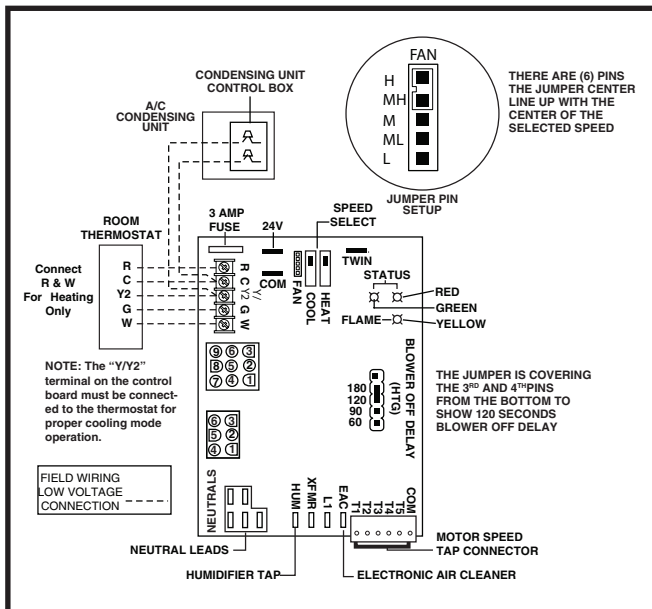

Figure 27. Nordyne Channel Control Board
- Figure 27 contains the proper connections for heating only (two-wire) and heating/cooling (five-wire) applications.